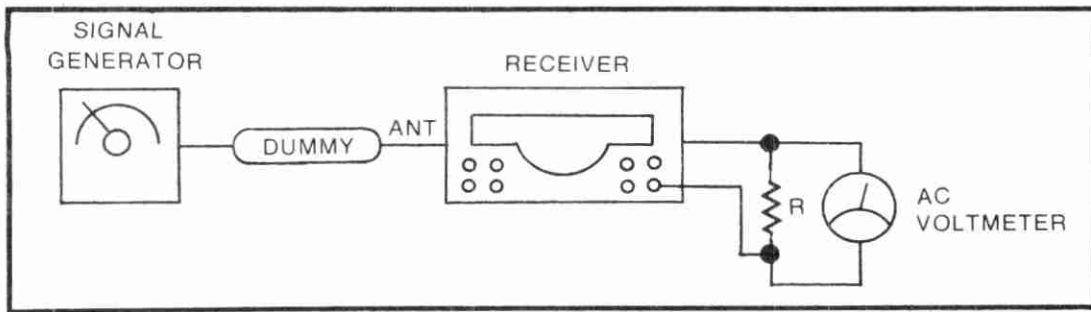

Fig. 24-2A. Alignment/measurement set-up.
The quieting method for determining sensitivity also uses the same equipment set-up, as shown in Fig. 24-2A, on this case, however, the signal generator must be unmodulated.
1. Connect the equipment as in Fig. 24-2A.